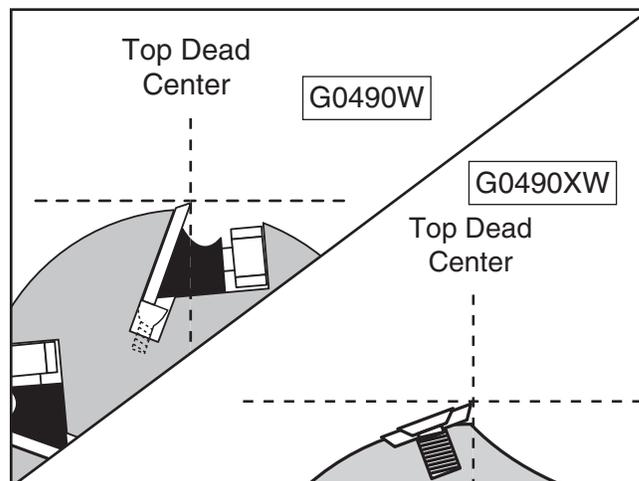

Figure 29. Knife or insert at top dead center.
17. Place straightedge on outfeed table so it extends over cutterhead, and use cutterhead pulley to rotate cutterhead until one of the knives or inserts is at top dead center (their highest point during rotation), as illustrated in **Figures 29–30**.